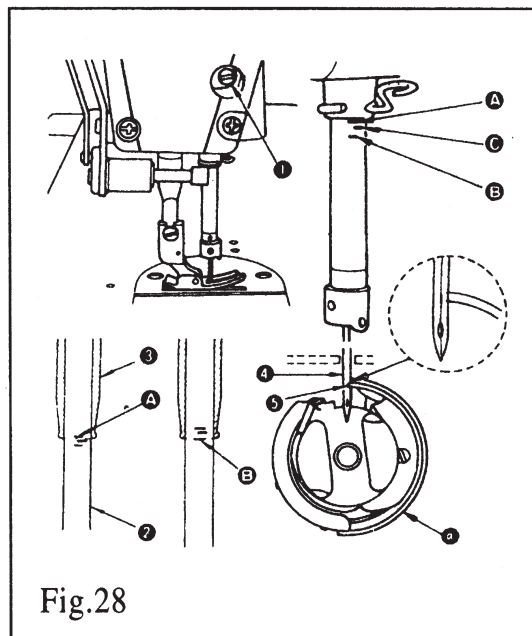

Fig.28
① Feed ② Throat plate
①Loosen screw ②of crank ①
②Move the feed bar up or down to make adjustment.
③Securely tighten screw ②.
23.NEEDLE-TO-HOOK RELATIONSHIP(FIG.28)